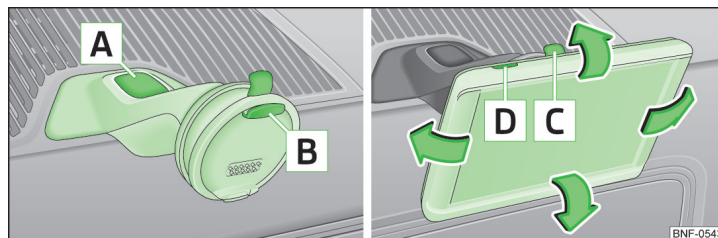

Fig. 77 Cradle on the multifunction device/multifunction device
- › Firstly, place the multifunction device into the top holder  » Fig. 77 and press it on the underside of the cradle until it latches » .
- › You can set the tilt to the required position by moving the multifunction device in the direction of the arrows » Fig. 77 » .
- › Using the other hand, press the release button  » Fig. 77 and remove the device.
- › With the other hand, press the release button  » Fig. 77 .
- › Switch on the multifunction device by pressing button  » Fig. 77 .